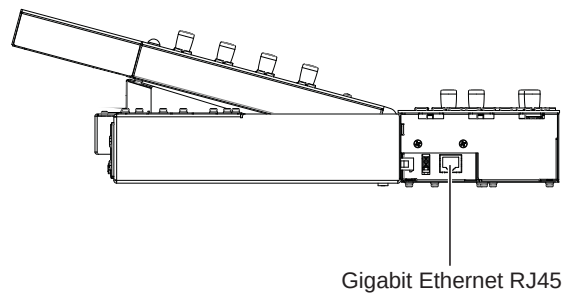

Figure 34. Master Module side panel Ethernet port
- 2 Connect the longest available Ethernet cable to the Ethernet port on the side of the module (see Figure 34):